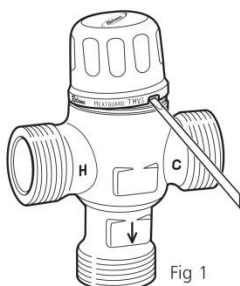

Fig 1
1. Remove the cover cap (Fig 1).